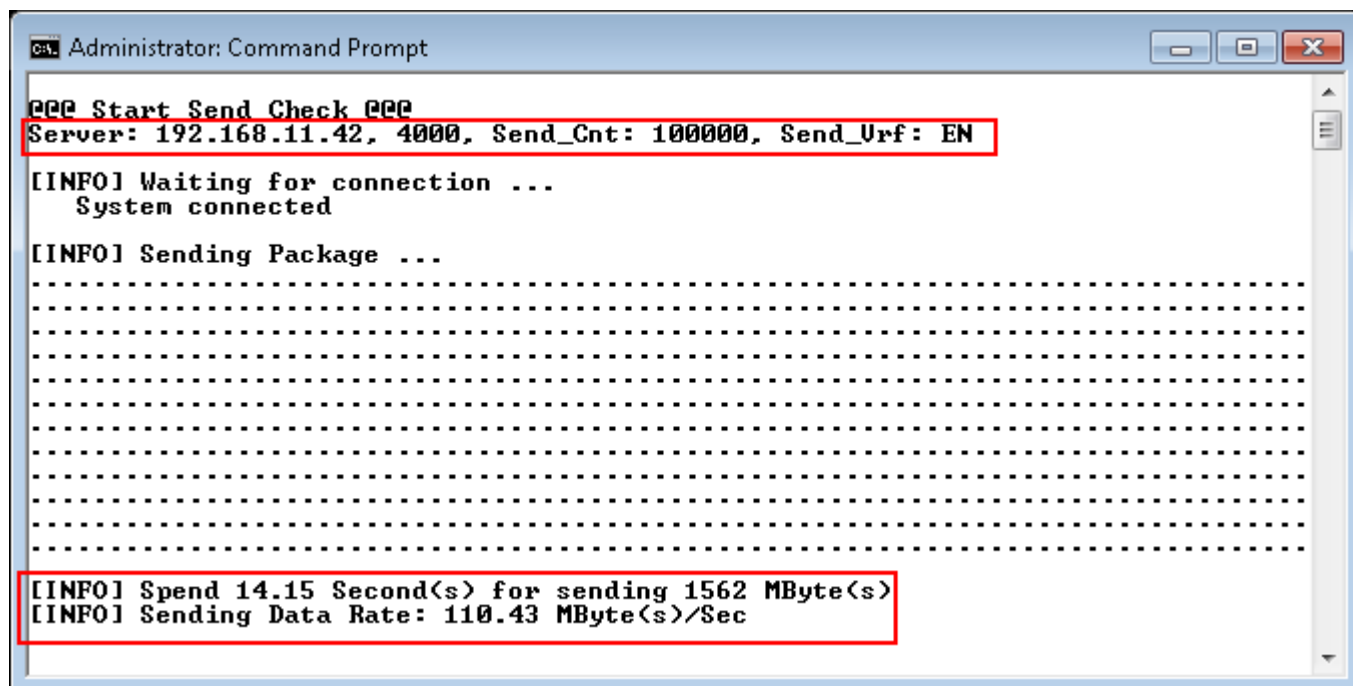

Figure 4-17 Receiving Demo on Verification mode
- Test application displays “...” during transferring packet and time usage with performance will be displayed when complete data transfer, as shown in Figure 4-17.